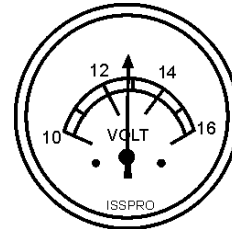

Figure 33. Battery Voltage Gauge
11. The battery voltage gauge (Figure 33) will indicate the voltage of the battery when the generator is operating. Under normal operating conditions this voltage is between 11.2 and 15.2 volts.